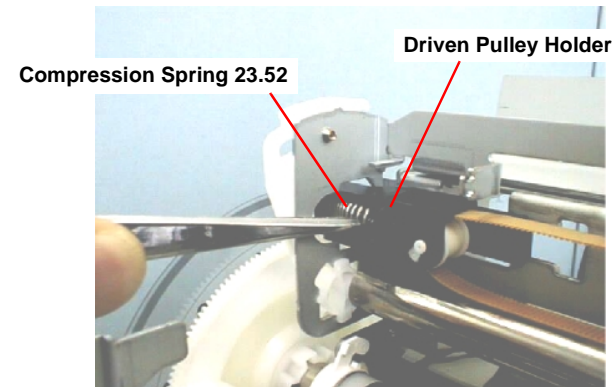

Figure 4-44. Taking Out the Compression Spring 23.52
- 3) Loosen the Timing Belt by pushing the Driven Pulley Holder and remove the Timing Belt from the pinion gear of the CR motor. Refer to Figure 4-44.
- 4) Using tweezers, take the Compression Spring 23.52 out of the Driven Pulley Holder. Refer to Figure 4-44.